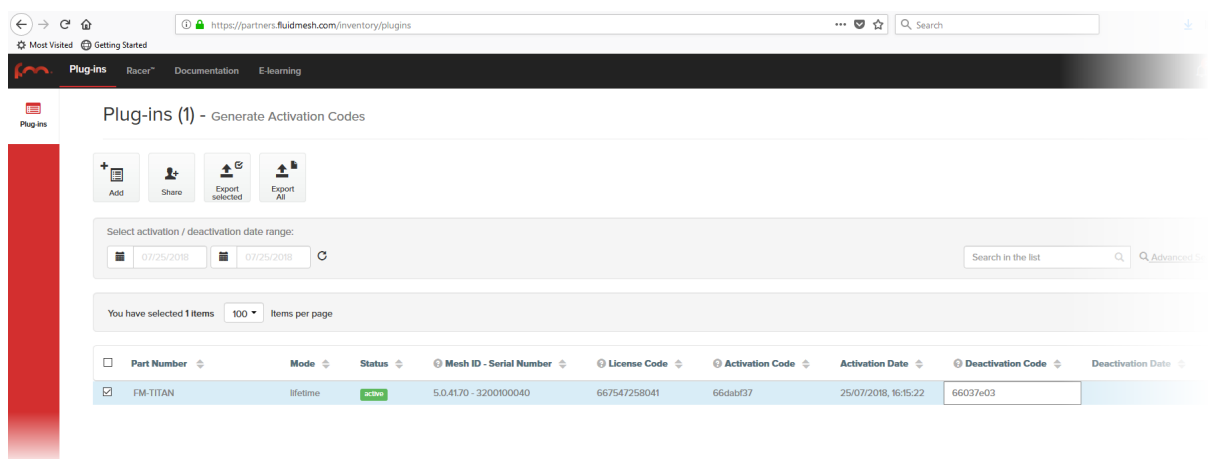

Figure 52. Partner Portal Plug-ins page (deactivation code entry)
8. Enter the Deactivation code for the plug-in in the Deactivation Code field (Figure 52 \(page 108\)).